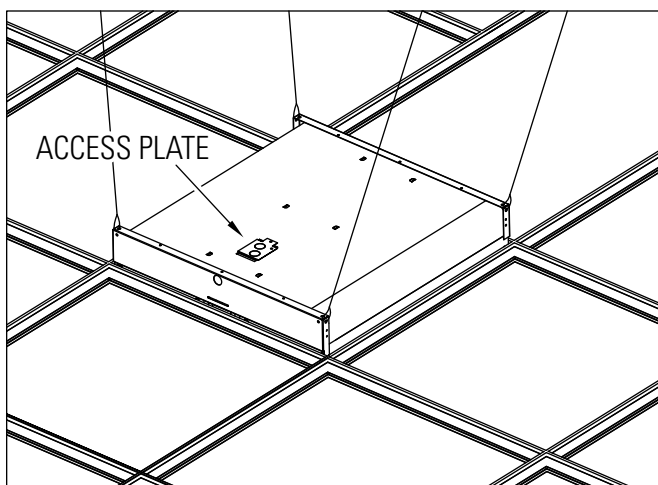

Figure 6
5. Remove ACCESS-PLATE on top of fixture designated to provide power to row and remove a 7/8" knock-out from ACCESS-PLATE and pull necessary wires out of fixture. (Fig. 6)